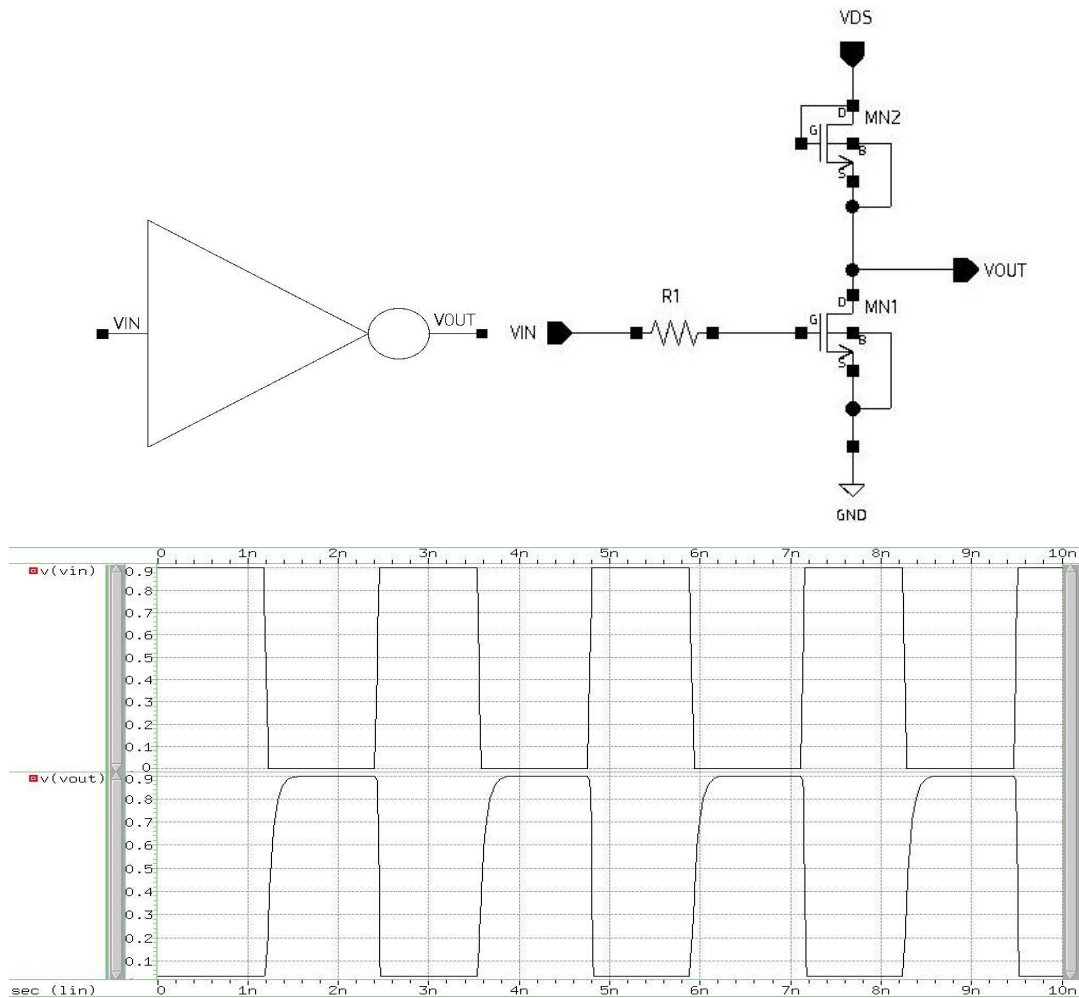

Fig. 1.3. Active load RTL NMOS inverter's symbol, electrical circuit, input and output signal waveforms
- Build the circuit for studying active load RTL NMOS inverter's characteristics based on data of table 1 (Fig.1.3).